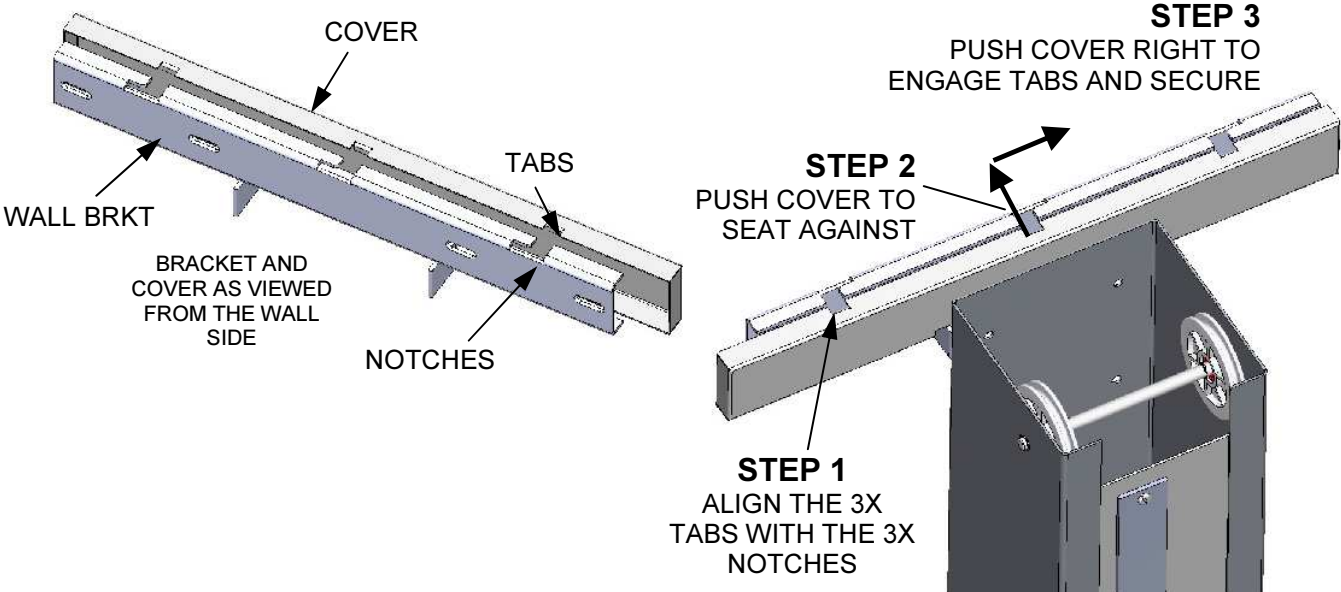

Figure 2: Installing the Wall Bracket Cover
- (2) Attach the ground cable from the lower mounting channel (shipped factory-connected) to one of two tapped holes on the rear of column at the base. The other will be occupied by the incoming ground cable (factory-connected). Dress the channel cable straight up the column and secure with a zip tie to the plastic base provided on the back of the column approximately 3.5 ft up.
- (4) Stand the column up and attach it to the wall and floor with appropriate fasteners (not supplied).
- (5) Mount the lock assembly to the slide with the handle to either the left or the right.
- (6) Mount the lower (a) and upper (b) film cabinet mounting channels.
- (7) Install the brake handle support bracket.
- (8) Mount the film cabinet.
- (9) Install the wall bracket cover (see figure 2)
- (10) Install the column cap.
- (11) Insert trim weights as required.
- (12) Mount the column side covers.